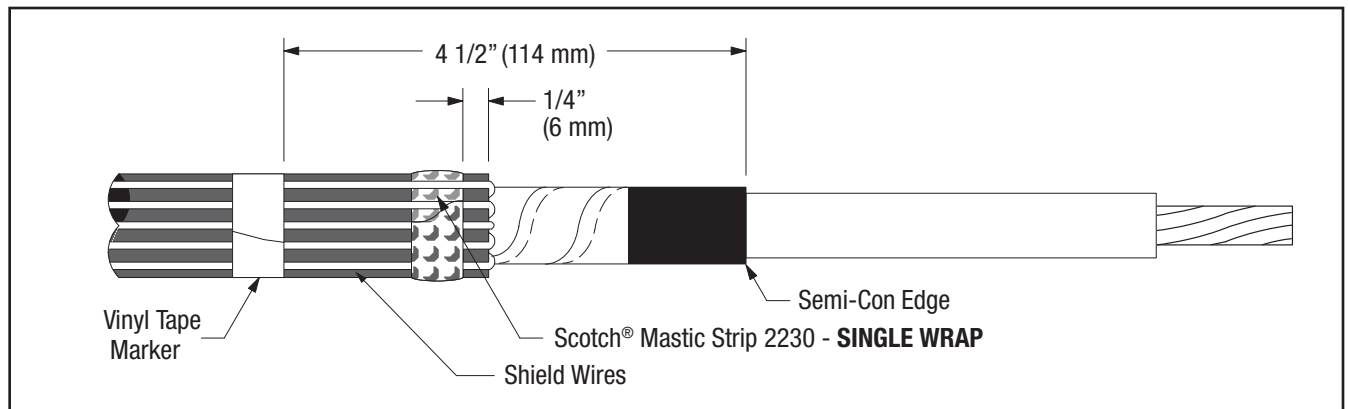

Figure 3
- 3.2 Bend shield wires back over applied sealing mastic and secure to cable jacket 4 1/2" (114 mm) from cable semi-con edge using vinyl tape (see Note and Figure 3).